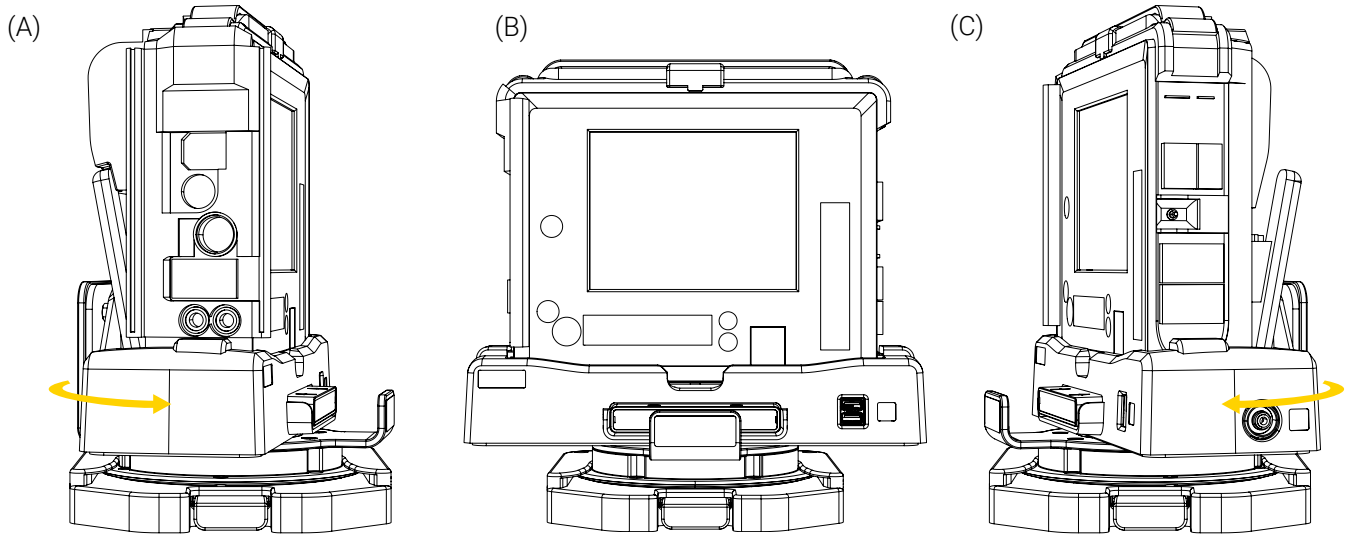

Figure 5: Rotating the Bracket Pro Serie 76 PX SMT in the Standard Surface Base
5. Turn the medical device clockwise or counterclockwise, to the desired position using the bracket handle (Figure 5).